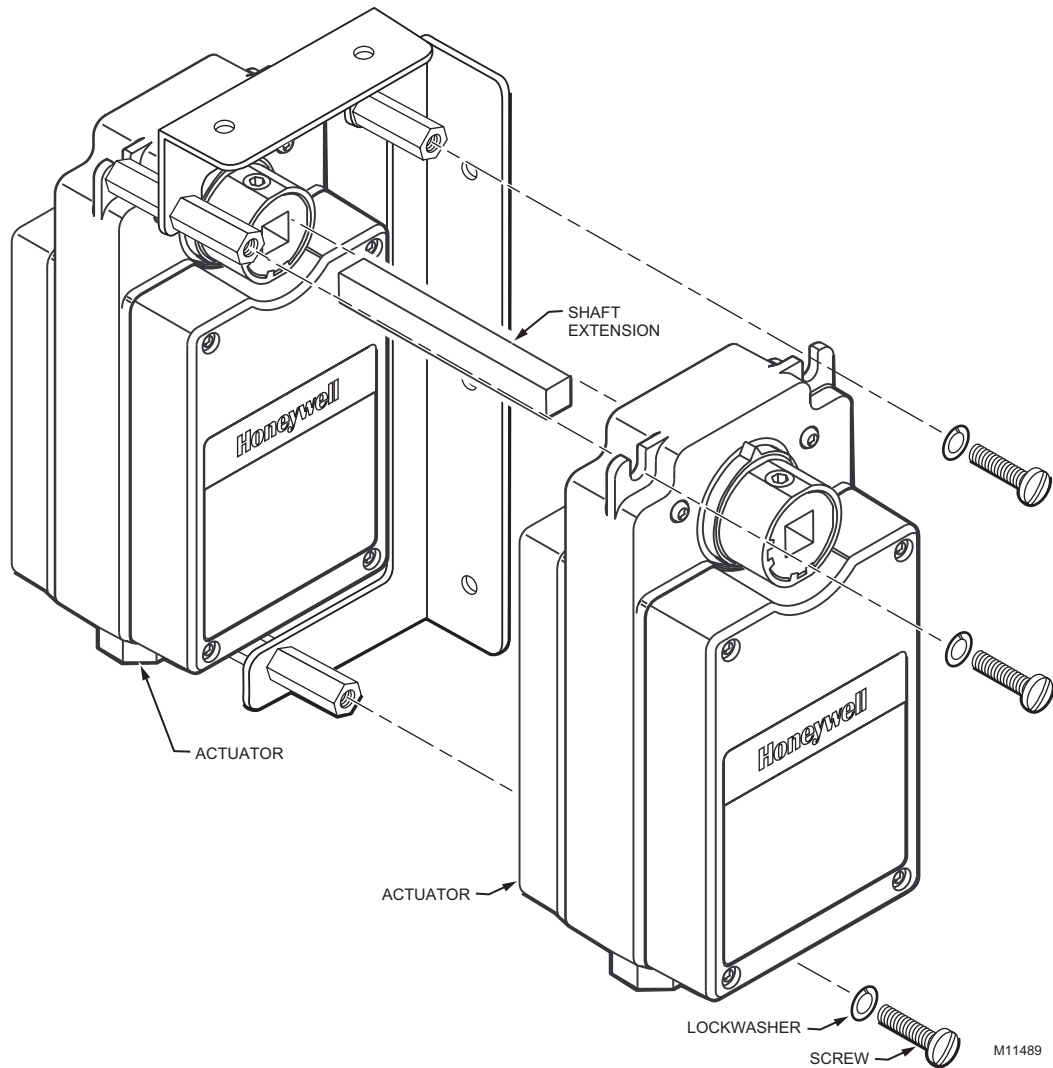

Fig. 2. Attaching actuators and shaft extension to 205840A Tandem Mounting Kit Bracket.
2. Place one actuator on the back of the bracket and attach with three 1/4 in. screws and lockwashers (see Fig. 2).